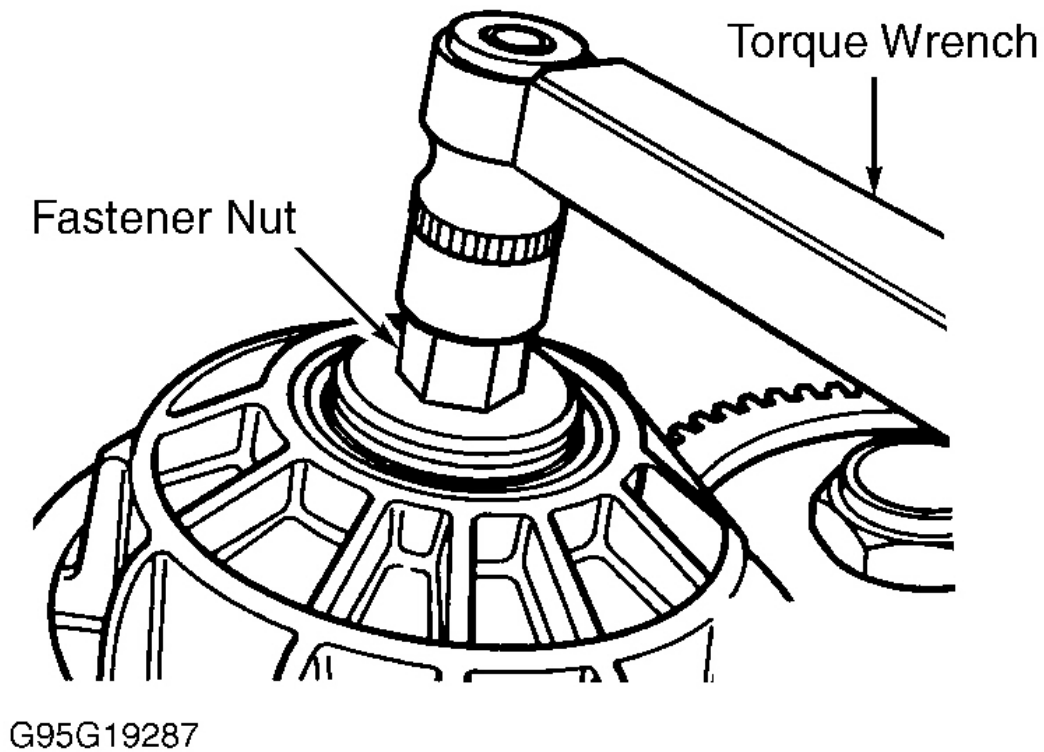

Fig. 56: Tightening Fastener Nut On Input Transfer Gear Roller Bearings
3. Install outer roller bearing (without dished washer or shim) on input transfer gear. See **Fig. 50** and **Fig. 55** . Engage parking gear. Using an Allen-head socket, tighten fastener nut to 74 ft. lbs. (100 N.m). See **Fig. 56** .